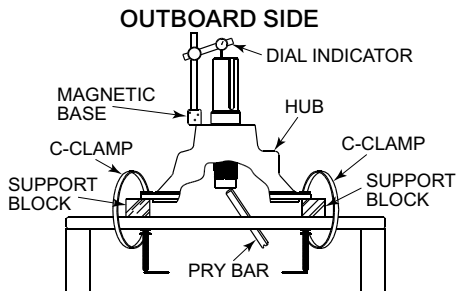

Figure 6.4.1 Setting Axial Bearing Clearance
18. Support hub and affix to work table with the shaft not touching the table; reference **Figure 6.4.1**.
1. Support housing to allow the shaft to rotate freely; reference **Figure 6.4.1**.
2. Affix the hub to the support table with C-Clamps or bolting to table; reference **Figure 6.4.1**.
5. Affix the magnetic base of the dial indicator to a flat area of the housing; reference **Figure 6.4.1**.
- With a pry bar, push the inboard end of the shaft up; reference **Figure 6.4.1**.